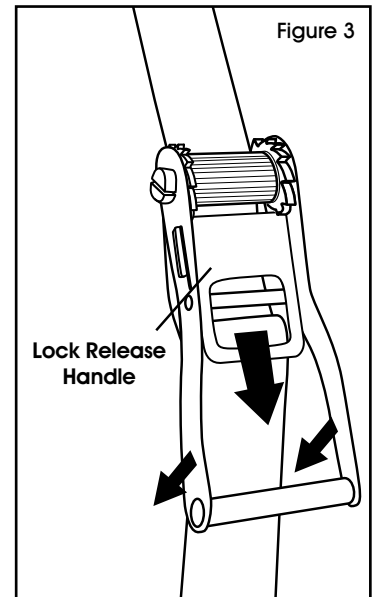
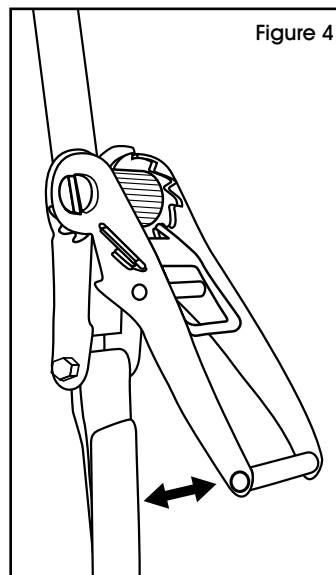

Figure 3
Figure 4
3. If handle is closed and locked, pull on the Lock Release Handle to disengage. (See Figure 3) Then tighten strap by pumping the handle until strap is tight. (See Figure 4)